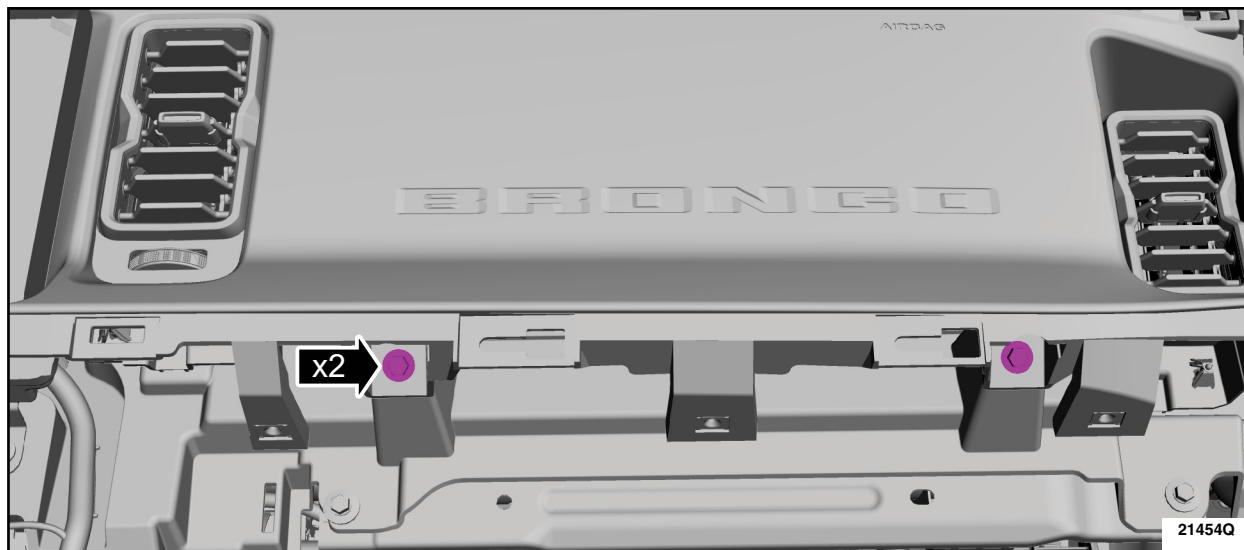

FIGURE 15
15. Remove the Right Hand (RH) center middle instrument trim panel lower screws. See Figure 15.